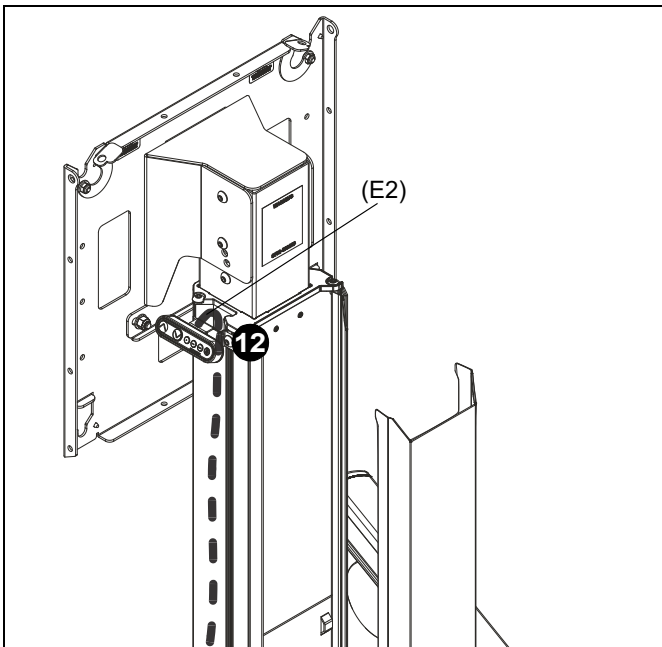
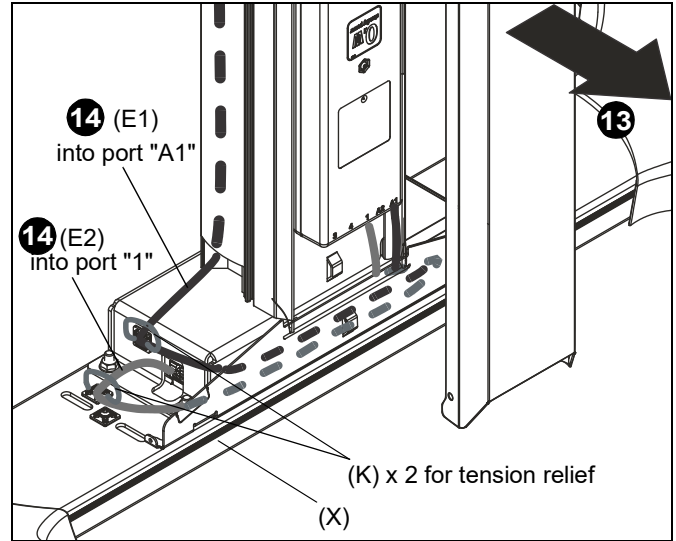
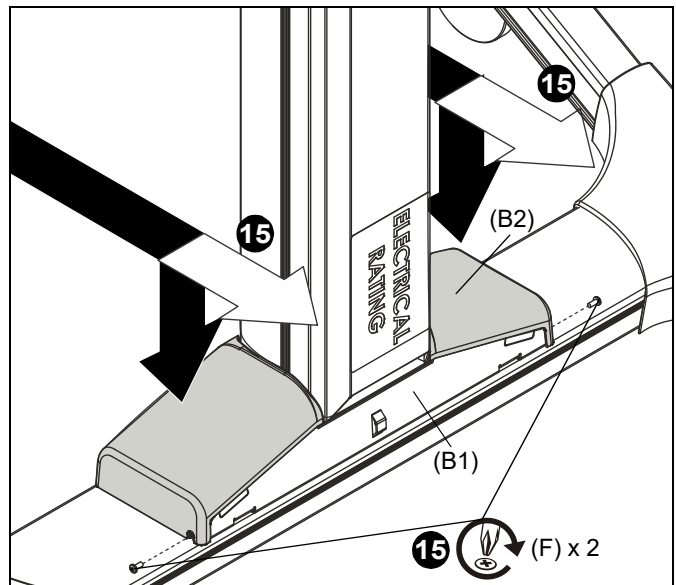

Figure 6
Figure 7
Figure 8
12. Route control pad cable (E1) through side channel. (See Figure 6) and (See Figure 7)
13. Remove back cover to expose control box. (See Figure 7)
14. Route control pad cable (E1) and motor cable (E2) behind back cover plate (B1) and into corresponding ports on control box. (See Figure 7) and (See Figure 8)
15. Slide lower cover (B2) onto column assembly (T) and use two 8-32 x 3/8" Phillips pan machine screws (F) to secure bottom back cover (B1) to lower cover (B2). (See Figure 8)